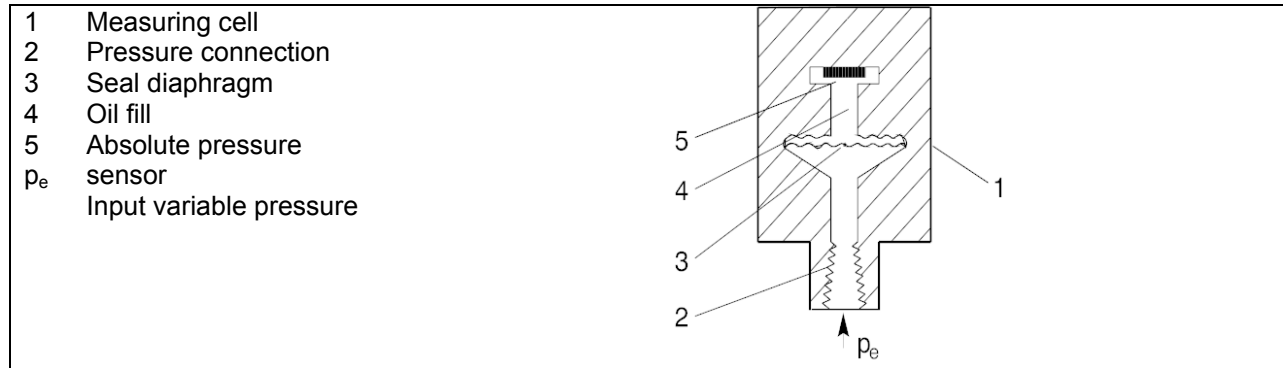

FIGURE 8-6 Absolute Pressure Measuring Cell, Gauge Construction
Pressure p_e is applied via the seal diaphragm (3) and full fluid (4) to the absolute pressure sensor (5). See Figure 8-6. This flexes the measuring diaphragm on which four piezo-resistors in a bridge circuit have been grown. Bridge resistance will vary with the applied pressure to generate a bridge output voltage that is proportional to the input pressure.